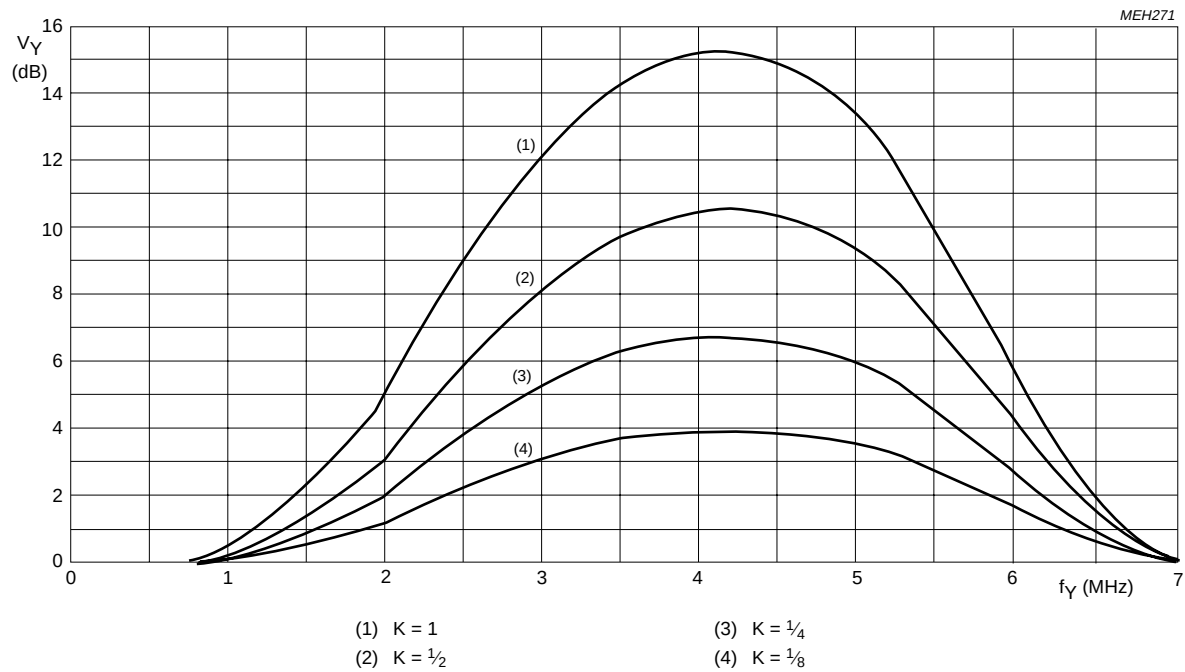

Fig.5 Peaking frequency response with I²C-bus control bits BP1 = 0; BP0 = 0 and BFB = 0.
YUV-bus timing (pins 4 to 11 and 14 to 21) (see Fig.5)
MC timing (pin 24) (see Fig.5)
1. YUV-bus data is read at MC = HIGH (pin 24) clocked with LLC (see Fig.5); data is read only with every second rising edge of LLC when CREF = ½LLC on pin 24.